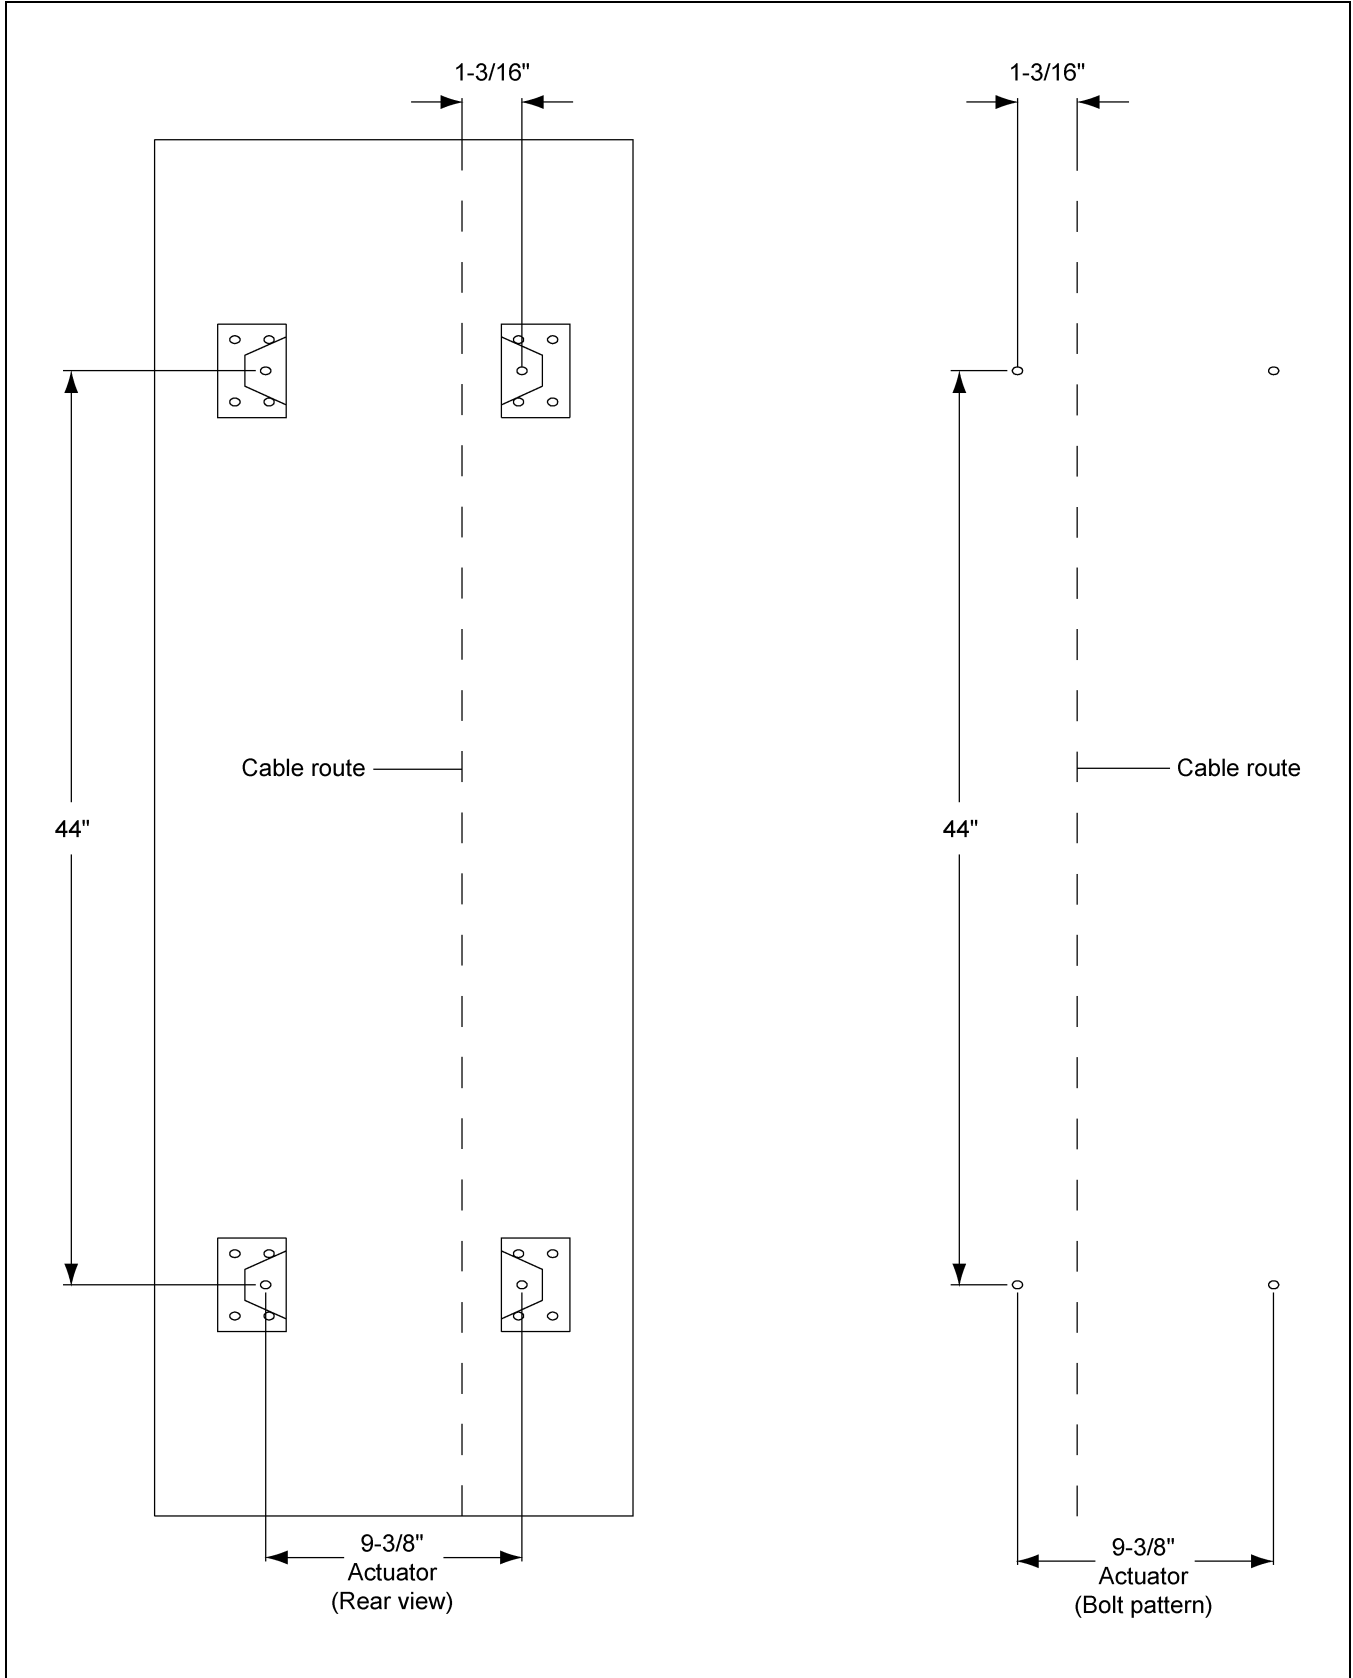

Figure 3G Bolt Pattern to Drill Holes for the Actuator Control Box
4. Use the pattern in Figure 3G on Page 16 to drill holes for the actuator control box.
6. Use four (4) 5/16" x 1-1/4" bin bolts and washers with bolt heads to the inside of the bin.